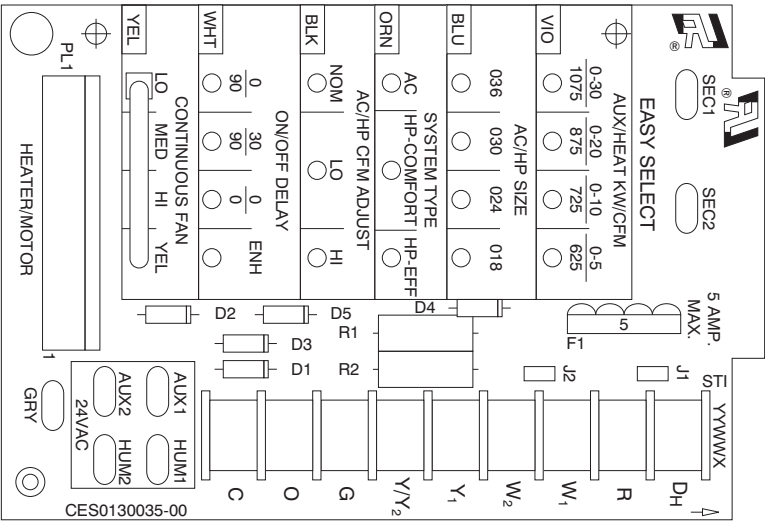

Fig. 5 – Easy Select Board 1185358
NOTE: Layout of actual PCB is depicted in Fig. 5.
The Easy Select taps are used by installer to configure system. The ECM 5.0 uses selected taps to modify its operation to a pre-programmed table of airflows. Airflows are based on system size and mode of operation and those airflows are modified in response to other inputs such as the need for de-humidification (Fig. 5).
heating source. To ensure safe heater operation in heat-pump heating mode, when electric heaters are energized, the ECM 5.0 will run the higher of heat pump airflow and electric heater airflow. The factory default selection is largest heater range approved (Fig. 5).
The factory default setting for air conditioner or heat pump size is largest unit meant for application with model of fan coil purchased. The installer needs to select air conditioner or heat pump size to ensure that airflow delivered falls within proper range for size of unit installed in all operational modes (Fig. 5).
The factory setting is AC (Fig. 5).
Select low, nominal, or high airflow. The factory selection is NOM. The adjust selections HI/LO will regulate airflow supplied for cooling and heat pump heating modes only, +15 percent and -10 percent respectively. The adjust selection options are provided to adjust airflow supplied to meet individual installation needs for such things as noise, comfort, and humidity removal (Fig. 5).
Select desired time delay profile. Four motor-operation delay profiles are provided to customize and enhance system operation (Fig. 5). The selection options are:
Select desired continuous-fan profile LO, MED, or HI. Airflow are provided to customize and enhance the continuous fan functions (Fig. 5). The possible selections are:
1. Check transformer and thermostat wiring (Fig. 5). Be sure the transformer is not shorting out because thermostat wires are miswired.
2. Check wiring of relays (Fig. 5). Be sure low-voltage and high-voltage wiring are connected to proper sequencers.